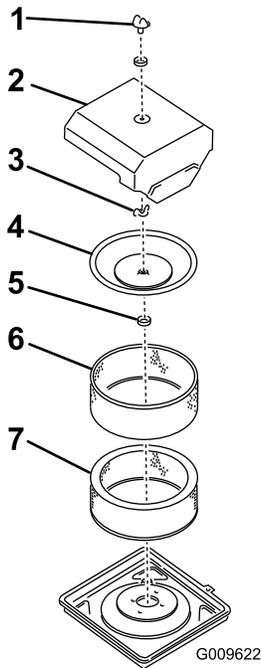

Figure 35
1. Remove the knob, O-ring, and cover (Figure 35).